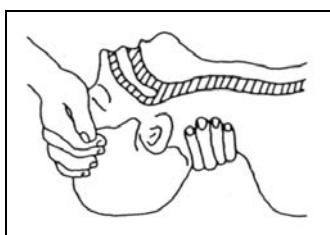

Figure 1
- Clear the airway by lifting the neck and pushing the forehead back (Figure 1). If necessary, open the mouth and check that the casualty is breathing.